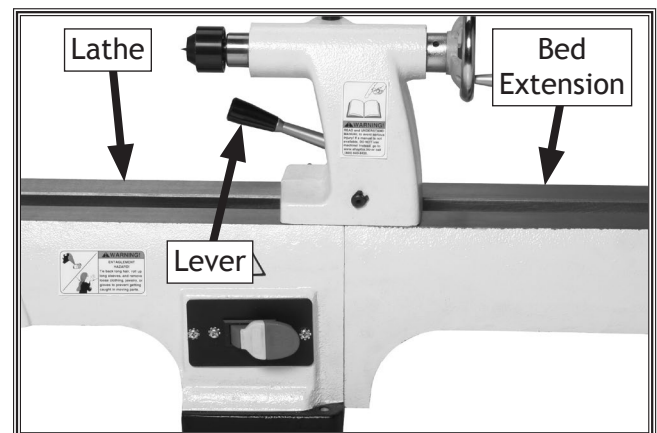

Figure 2. Tailstock centered over lathe and bed extension, and then locked into place to align bed surfaces. (Reference photo only, actual machine not shown).
3. Center tailstock over bed extension and lathe as shown in **Figure 2**, and engage lock lever to bring bed extension and lathe surfaces even with bottom of tailstock.